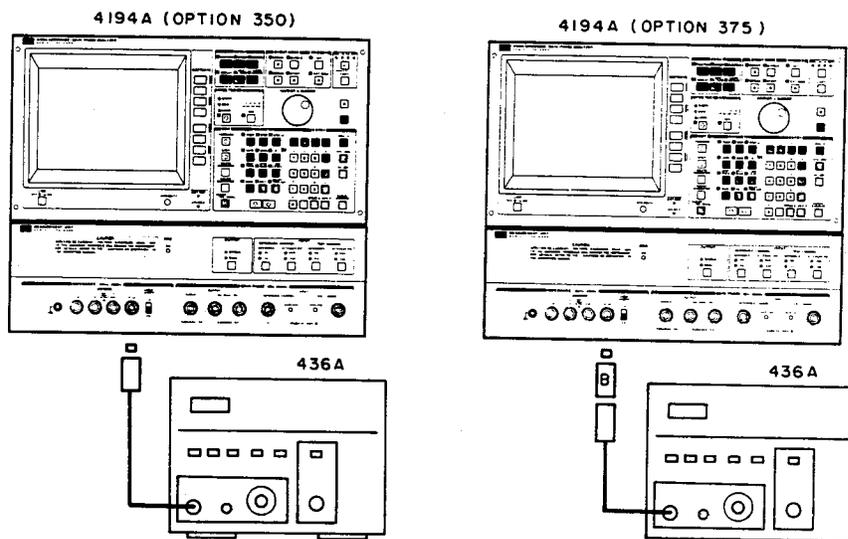

Figure 4-28. Impedance Measurement Signal Level Test Setup 1
1. Connect the 436A to the 4194A's UNKNOWN Hcur terminal as shown in Figure 4-28.